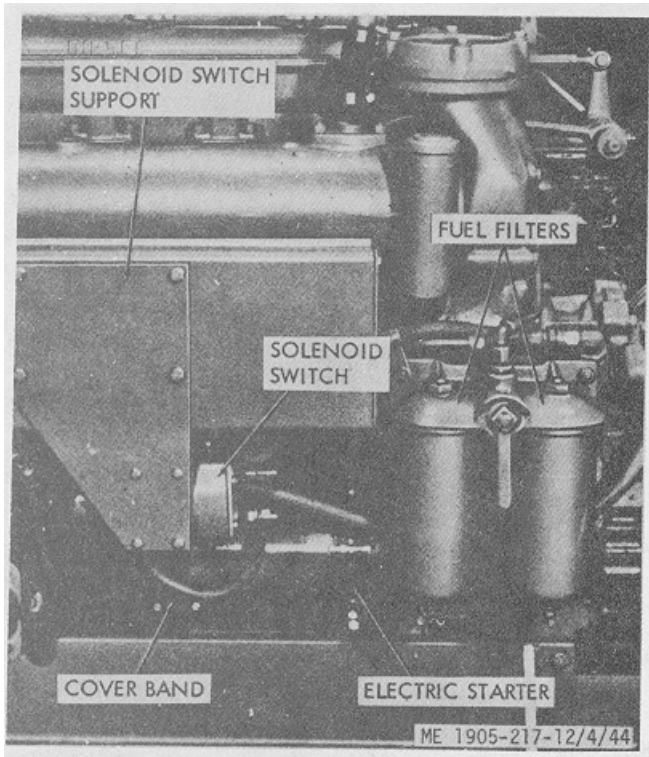

Figure 4-44. Electric starter and solenoid switch.
#### 4-50. Electric Starting Motors (fig. 4-44)
*c. Electric Starter Removal (fig. 4-44).*
- (1) Disconnect negative lead at battery.
- (2) Remove and tag solenoid switch leads.
- (3) Remove solenoid switch and switch support.
- (4) Remove and tag starter leads.
- (5) Turn fuel filter valve lever to shut off the forward filter. Drain filter and remove the shell and element.
- (6) Remove the three bolts and lockwashers securing the starting motor to the flywheel housing and remove starting motor from the engine.